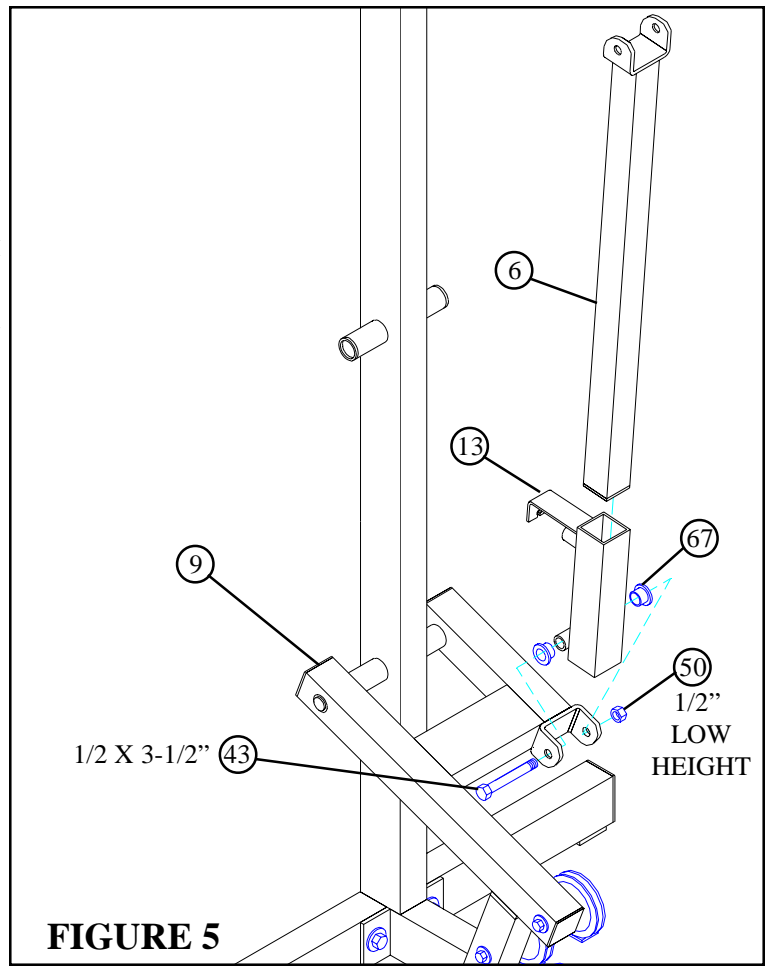

FIGURE 5
- Insert two 1/2" FLANGE BEARINGS (67) into RECEIVING TUBE (13).
- Attach RECEIVING TUBE (13) to PRESS ARM LEVER (9) using one 1/2 X 3-1/2" BOLT (43), and 1/2" LOW HEIGHT LOCKNUT (50). (NOTE: Securely tighten, then back nut off 1/4 turn to allow the RECEIVING TUBE (13) to rotate freely.)
- Insert the ADJUSTMENT TUBE (6) into the RECEIVING TUBE (13) as shown in FIGURE 5.